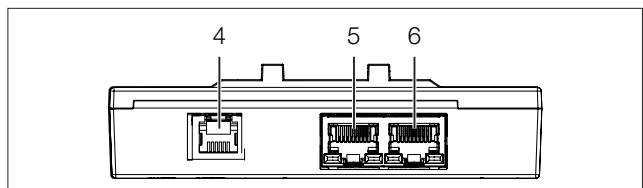

Fig. 12: Rear of the access monitoring sensor
- Connect a CMC III access sensor VX (7030.128) to the appropriate connection (fig. 12, item 4).
- Use a CAN bus connection cable to connect the access monitoring sensor to a CAN bus interface on the Rittal embedded device or the neighbouring component on the CAN bus (fig. 12, item 5, 6).
■ If necessary, connect another component (e.g. another sensor type) to the second, free CAN bus interface of the access monitoring sensor (fig. 12, item 5, 6).